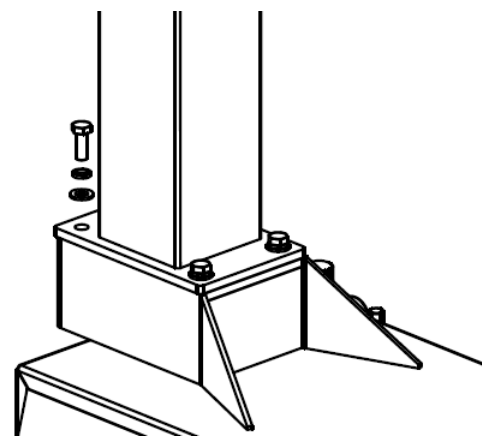

FIG5
3.2.1 After un-package the package carton, take out accessory boxes (FIG 4-1) ,bead breaking arm (FIG 4-3) and column assembly (FIG 4-2) . And position and fix according to the FIG5. Remove the bolt, elastic washer and plate washer on the body (FIG 4-4).
3.2.2 Place the column on the body. The direction of the warning label is forwards. Make the holes on the column base plate align to thread holes on the body. Once again assemble the removed the bolt, elastic washer and plate washer and plate washer removed in 3.2.1The torque is 70 N·M (FIG5) Use torsion wrench to tight.